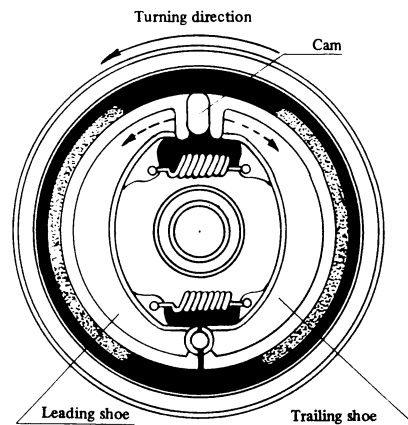

Fig. 6-4 Single leading shoe (rear brake) (Kawasaki Motors Corporation)
**Single Leading Shoe.** The single leading shoe brake has a single brake cam and two brake shoes with stationary pivot points (Fig. 6-4, 6-5).